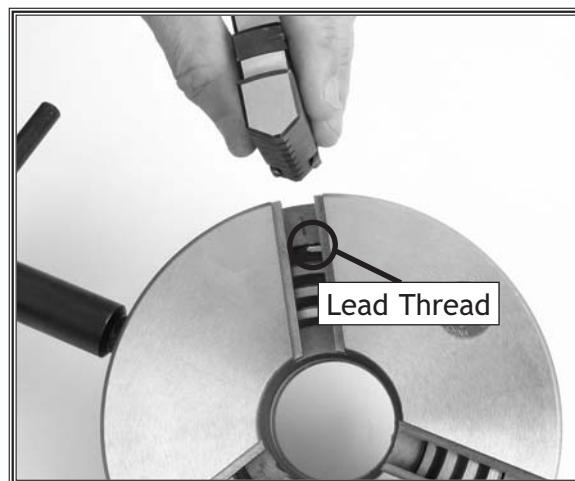

Figure 24. Lead thread on scroll.
5. Look into the jaw guide and you will see the scroll rotating as you turn the chuck key. When the leading thread of the scroll comes into view at the top of the #1 jaw guide, stop turning the chuck key (see Figure 24).